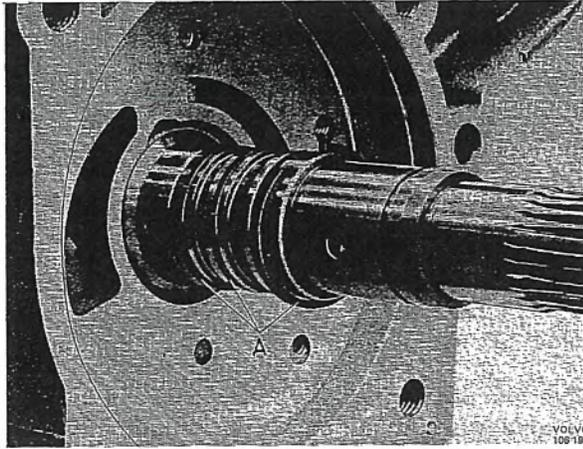

Fig. 4-89. Installing driven shaft oil rings
4. Fit the three oil sealing rings on the shaft, see Fig. 4-89. Exercise care when doing this as the oil sealing rings are very fragile. Stand the box on its front end and support under the shaft. Center the oil rings. The oil deflector flange is then fitted.